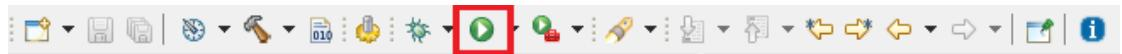

Figure 10: *STM32CubeIDE* menu icons - Run
7. If your target is connected to the computer click **Run → Run** or click on the *Run* icon as seen in Figure 10. The program is now transferred to the target and is automatically started.